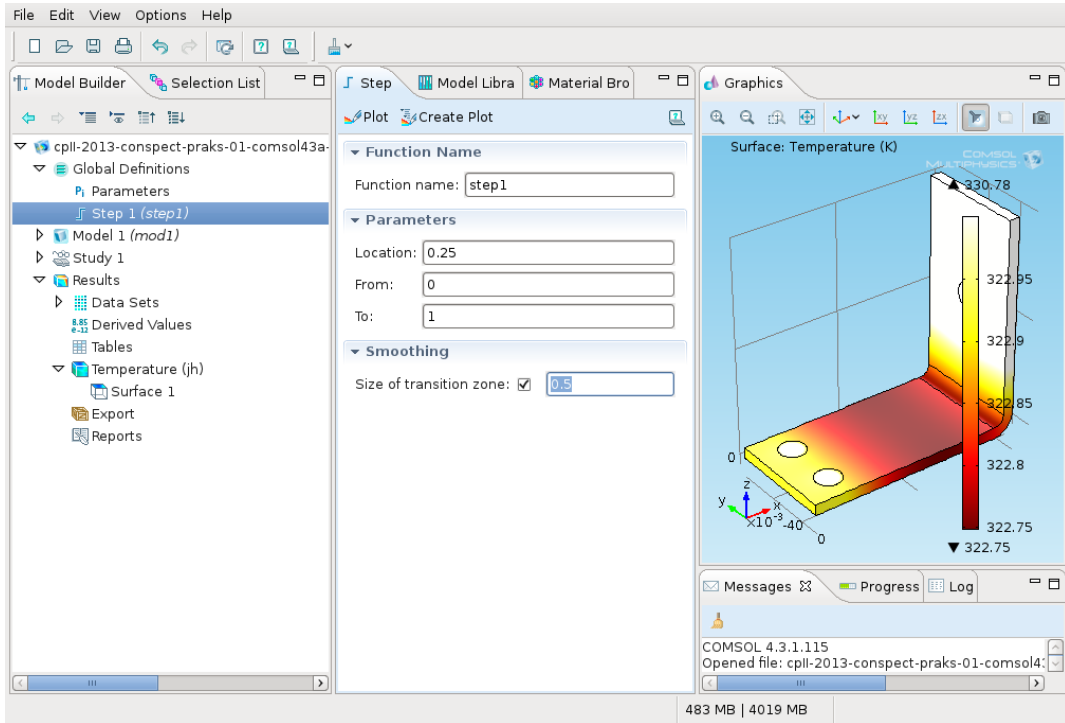

Figure 1: Creating the step function.
- 2 In the parameters window of the *Step*: *Location* = 0.25 (Fig. 1).